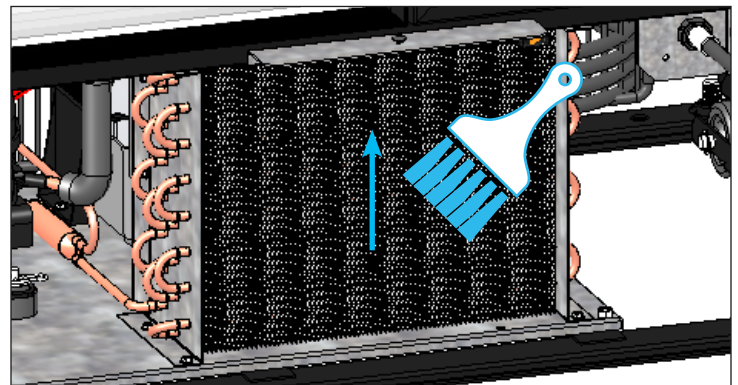

Fig. 3. Never brush across the coil fins.
3. With a stiff bristle brush, carefully clean accumulated dirt from the front condenser coil fins See fig. 3.